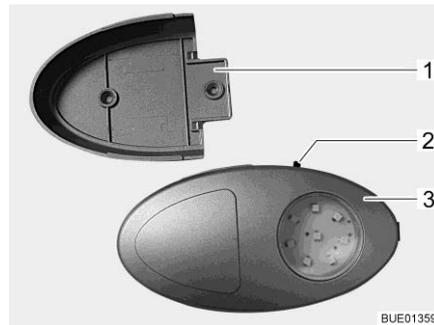

Fig. 102 Wardrobe light/torch
- ▷ The wardrobe light can be removed from its holder (Fig. 102,1) and used as a torch.
The On/Off switch (Fig. 102,2) is located directly on the wardrobe light (Fig. 102,3).